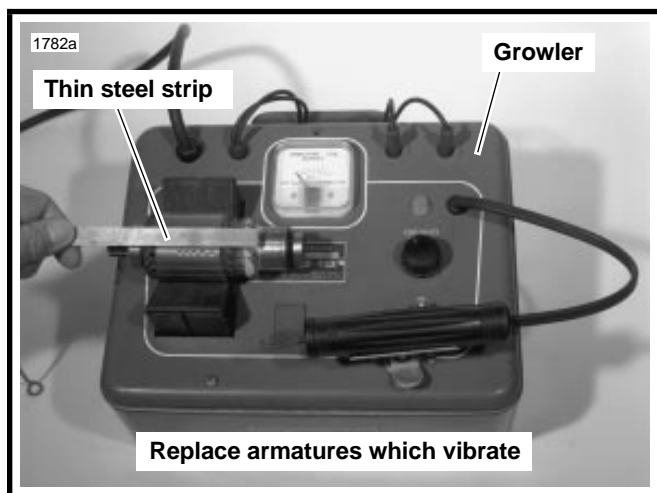

Figure 5-17. Shorted Armature Test Using Growler
9. See Figure 5-17. Check for SHORTED ARMATURE with a growler. Place armature on growler. Hold a thin steel strip (hacksaw blade) against armature core and slowly turn armature. A shorted armature will cause the steel strip to vibrate and be attracted to the core. Replace armatures if shorted.